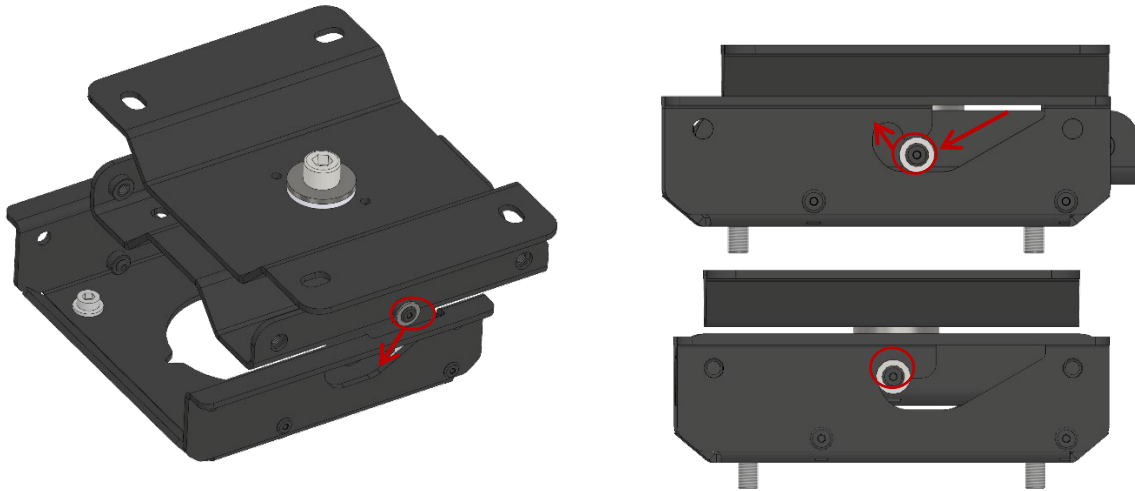

Figure 25 Mounting the ECO-QH-S with the ECO-CB
Step 3: Slide the ECO Quick Hang S from below into the ECO Ceiling Bracket, so that its two side pins slide into and lock within the two cutouts, as shown in the pictures combined in Figure 25 Mounting the ECO-QH-S with the ECO-CB.